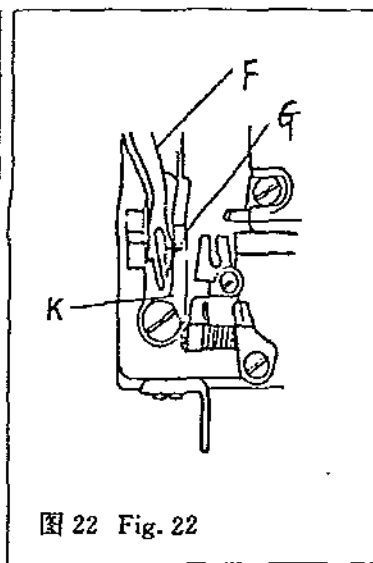

图 22 Fig. 22
②转动手轮，检查钩线叉“F”运动到机针护板“K”的最近点“G”时是否相碰(图 22)，如果相碰必须将偏心支承套向左作微量调整。
②Turn handwheel to make the pronged thread hook "F" move towards the nearest point "G" of needle guard "K" (Fig. 22), if "F" comes into contact with "G", fine-adjustment of the eccentric supporting sleeve shall be made.